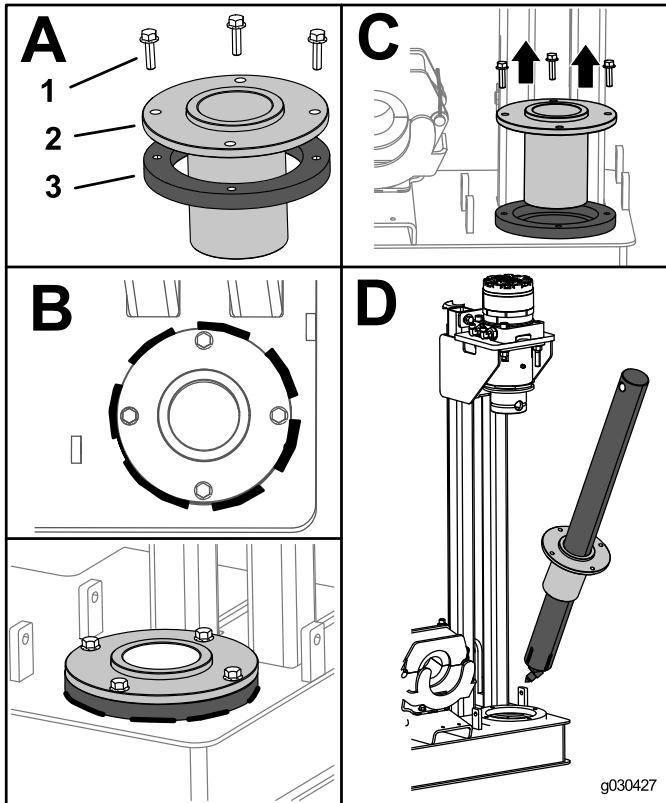

Figure 4
1. Secure the stake guide onto the guide ring using the 8 bolts (M8) (Box A of Figure 4).
4. Weld the guide ring onto the machine using 7 equally spaced 5 cm by 0.64 cm (2 inch by 0.25 inch) welds as shown in Box B of Figure 4.
5. Remove the bolts and stake guide (Box C of Figure 4).
7. Place the stake guide on the stake and guide the stake into the guide ring on the machine (Box D of Figure 4).
9. Secure the stake-guide ring on the welded guide ring using the 8 bolts (M8-1 1/4 x 20 mm) (Figure 4).